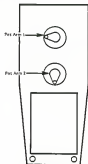

Figure 6-8. Pot Arm Positions for Assembly
3. Position the pot arms as shown in Figure 6-8.